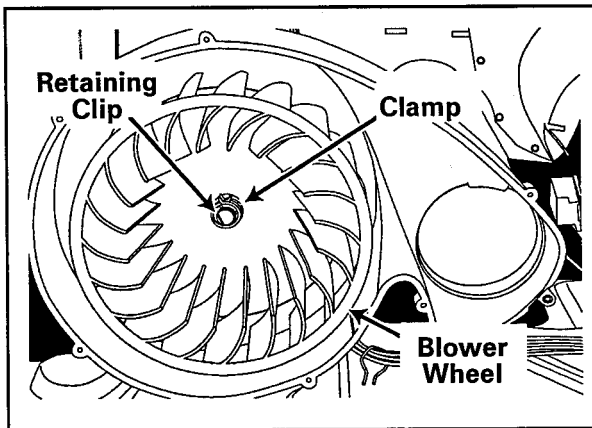

**Figure 7-4**
3. Install the first screw closest to the exhaust duct (right most screw). **(See Figure 7-4)**